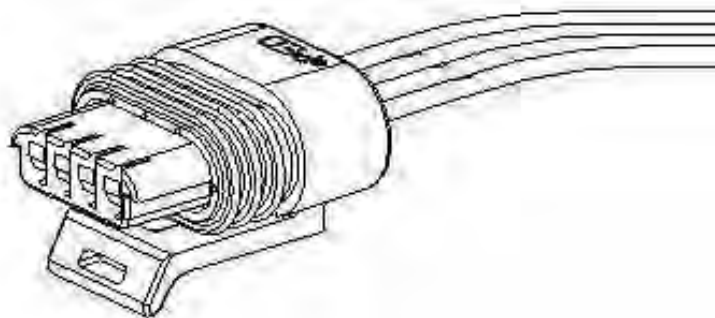

Figure 66
- n. Visually verify the terminals are fully seated in the connector housing. The contacts should be recessed in the connector housing and shown in Figure 66.